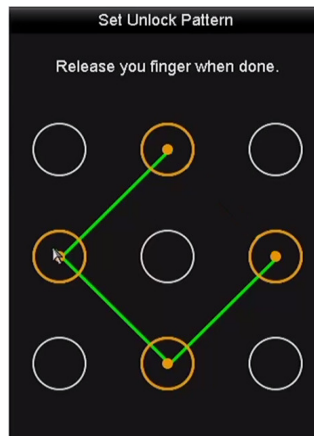

Figure 2-8 Draw the Pattern
1. Right click the mouse on the screen and select the menu to enter the interface as shown in Figure 2.8.